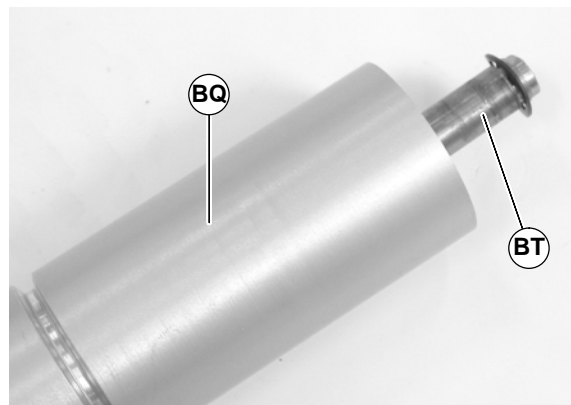

Figure 73
7. Slide the shaft assembly (BT of Figure 73) out of the pulley (BQ).